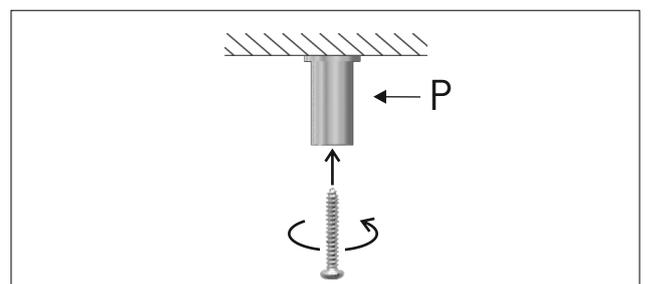

Figure 15
15 - Screw both gripper supports (P) to the ceiling. Figure 15.